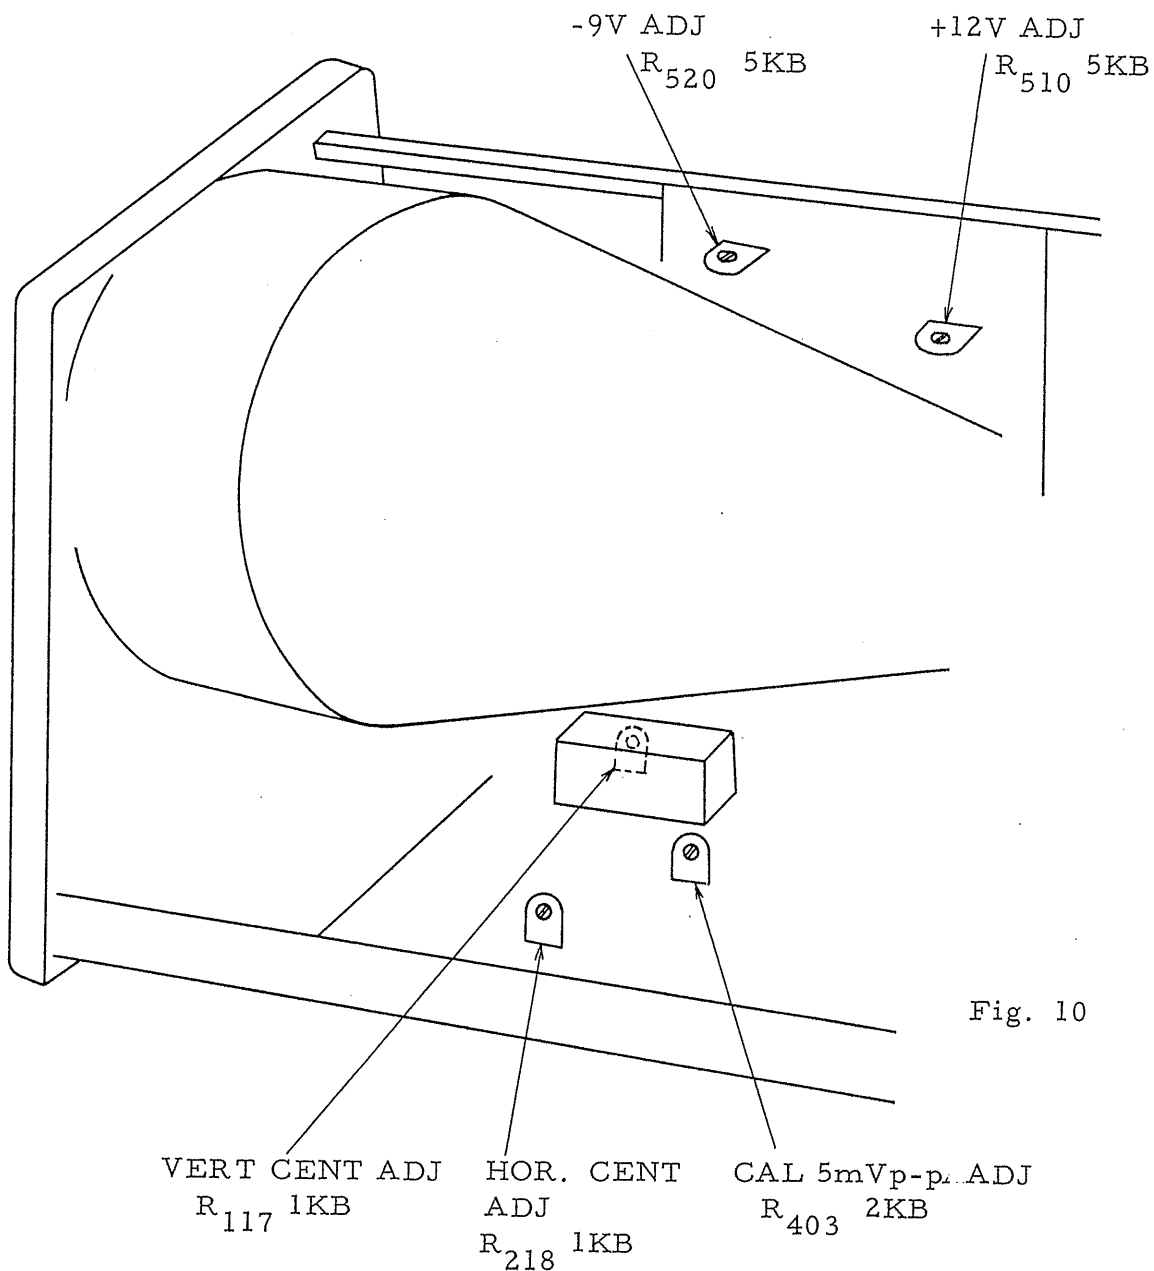

Fig. 10
5.4 Regulation of line voltage (See Fig. 10)
R_{117} and R_{218} are semifixed resistors, of which each sets each POSITION knob at such a position as is virtually the center of the revolution range, in case a trace is set at the center of the cathode-ray tube by turning the vertical and horizontal POSITION knobs properly. As to the method of adjusting the resistors, set each POSITION knob at the center of the revolution range, as shown in Fig. 10, without feeding such with input signals. At that time, in case a spot moves either upward or downward, adjust R_{117} , while in case the spot moves either rightward or leftward, adjust R_{218} , thus positioning it at the center. The above-mentioned adjustment of the semifixed resistors has nothing to do with the said DC balancers.